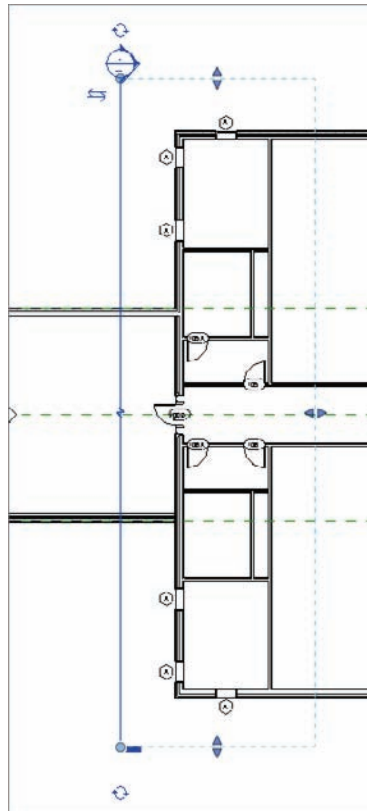

FIGURE 3.60 Adding another section to the model
4. This time, pick a point above the corridor that connects to the east wing of the building for the section head, and then pick a point well below the bottom of the corridor, as shown in Figure 3.60.